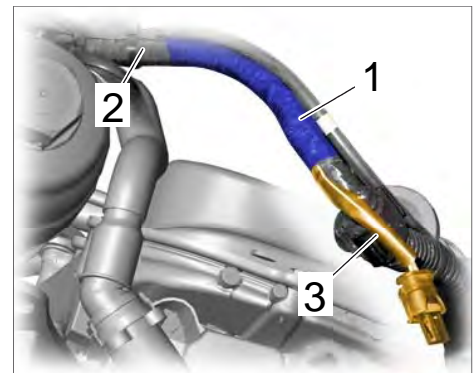

Figure 7
- 4.1 Remove binding tape ⇒ *Figure 7 -item 1-* from around the wire harness ⇒ *Figure 7 -item 2-* and disconnect the wires to the hydraulic valve connector ⇒ *Figure 7 -item 3-* from the main wire harness.